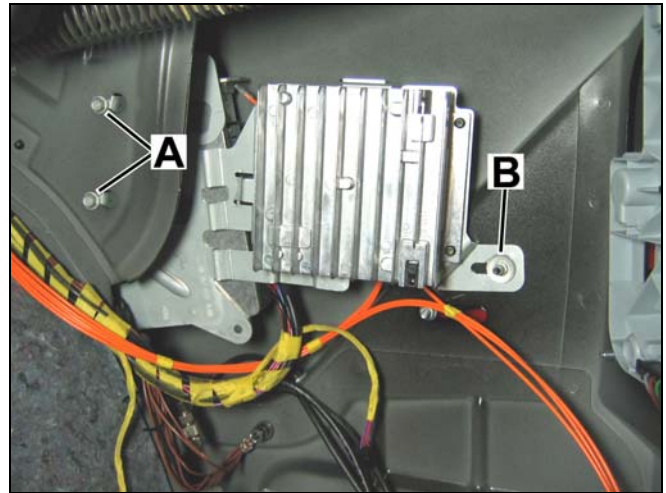

Figure 24
4. Mount the front of the bracket assembly with two M5 x 11 self-tapping screws to the trunk reinforcement panel (B, Figure 24) and one 8-mm flanged nut to the threaded stud on the right quarter panel interior (B, Figure 24).